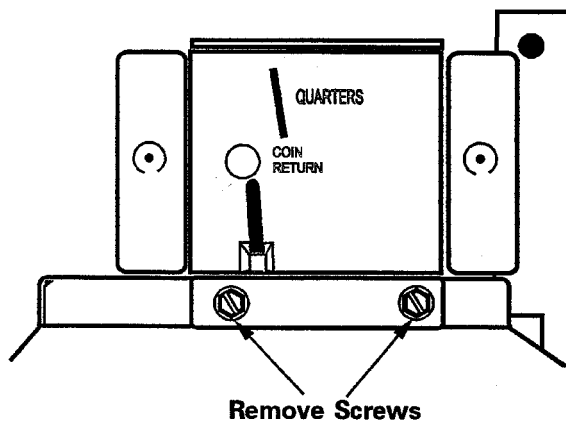

Figure 2-71
5. Remove two 3/8" screws holding coin drop mounting plate, *see Figure 2-71.*